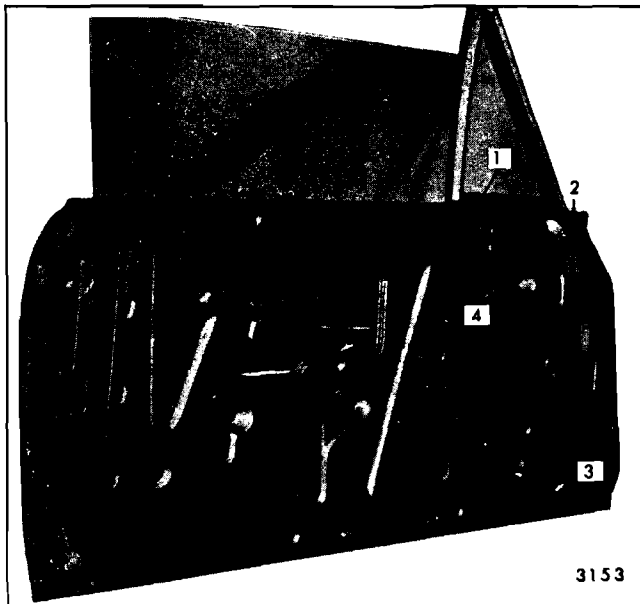

Fig. 6-72—Front Door Ventilator Assembly Removal and Adjustment "A-39" Styles
("1", Figure 6-72) and trim pad hanger plate retained by rear bolt.
3. Remove ventilator lower frame adjusting stud ("2", Figure 6-72).
4. Remove division channel lower adjusting stud ("3", Figure 6-72).
To reposition the ventilator assembly up or down or fore or aft, it is necessary to have the vent completely loose at all attaching locations, including the ventilator regulator attaching bolts ("4", Figure 6-72).
To adjust the top of the ventilator in or out, loosen only the adjusting stud nuts ("2" and "3", Figure 6-72) and adjust the studs in or out as required.
It is not necessary to loosen the vent to outer panel bolts ("3", Figure 6-72).